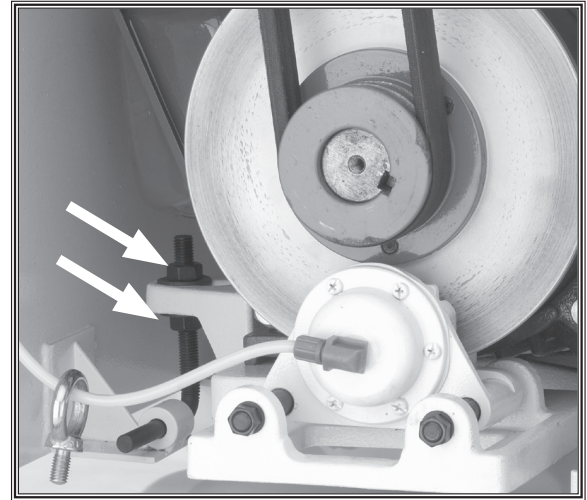

Figure 30. Sanding motor V-belt adjustment.
3. The two nuts shown in **Figure 30** are responsible for adjusting the V-belt tension. Turn both nuts clockwise to tighten the V-belts, or turn both nuts counterclockwise to loosen the V-belts.